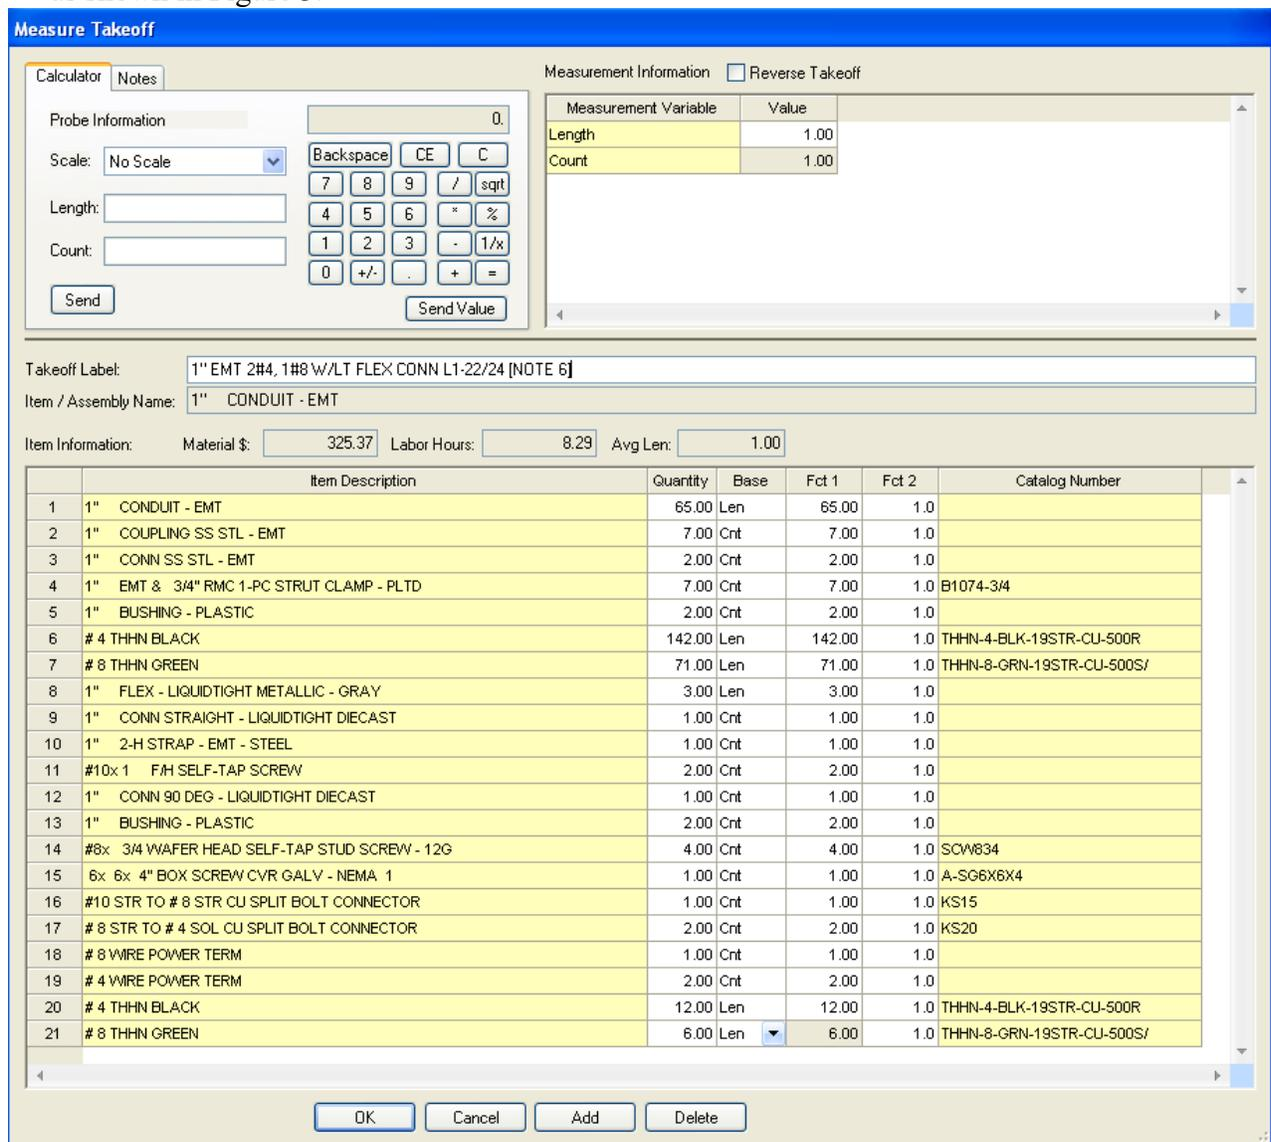

Figure 3
16. Using the ITEM DATABASE, add the items shown in the Item Description and edit Fct 1 and Fct 2 as shown in Figure 3.